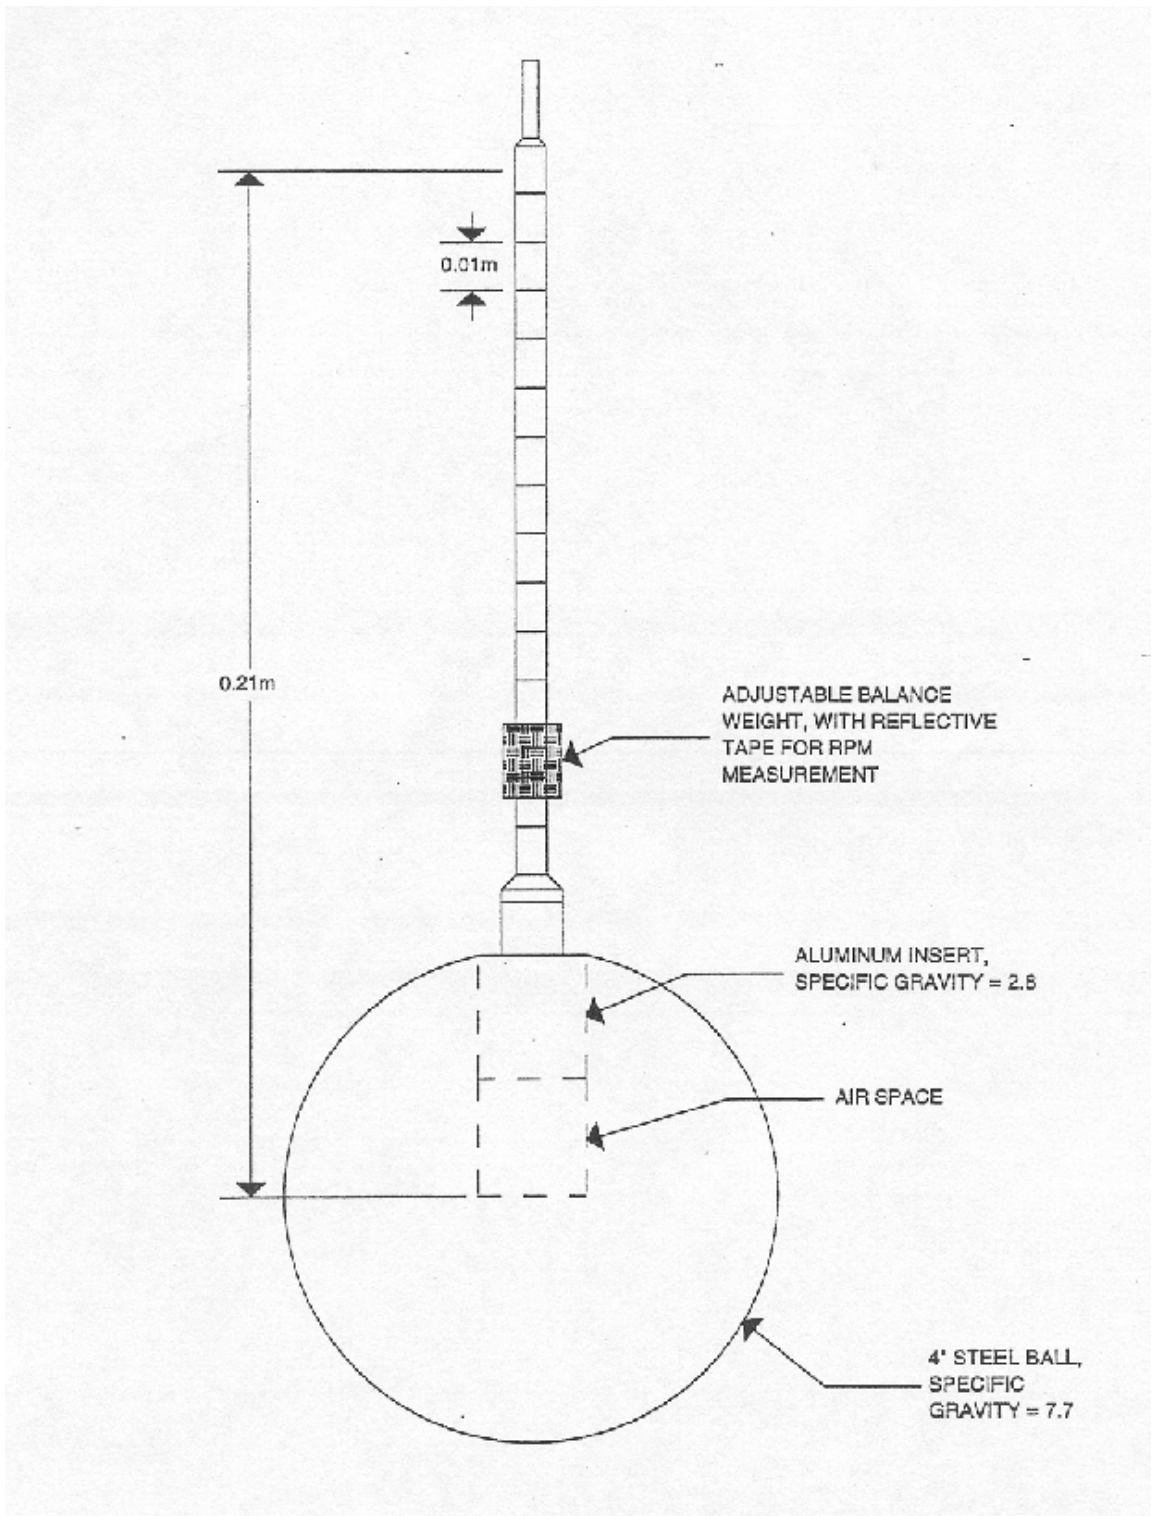

FIGURE IV.1
- *Steel ball on an air bearing (see Figure IV.1):* On one side of the ball a rod is mounted for reference and for touching. This side of the ball has also been bored out, so that the rod side is lighter and the center of mass can be adjusted to either side of the center of the sphere by sliding a balance weight in or out. The balance weight is black, with reflective tape, to make rotation rate measurements easier. The sphere is supported in a spherical cup into which high pressure air is supplied so that the sphere is actually supported by a thin layer of air (similar to the air track).
- 5) Get the ball spinning and repeat step (4). One good way to do this is to roll the rod between your hands; stop any wobbling motion by holding the tip lightly and briefly. Avoid touching the ball itself. Caution: do not allow the rod to touch the base, and do not jar the ball while it is spinning.
- a) Add another weight to the rod so that the gyroscope is no longer balanced. Record its mass and position on the rod, for use in calculations later (See Figure IV.1). Weigh it if necessary.
- 8) Remove the weight and repeat step (7) with at least two more weights, for a total of at least three different weights and three different spin rates per weight. The spin rates need not be the same as the ones you used before, but they should cover a similarly wide range of r.p.m.